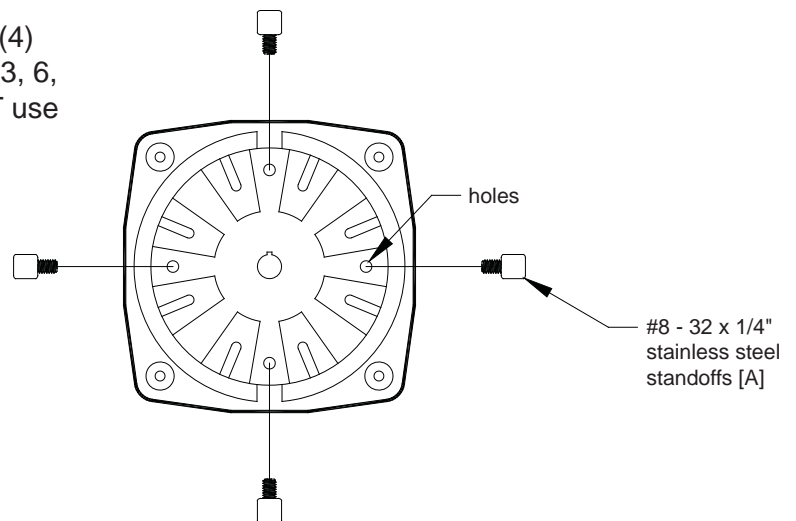

Figure 4
Clean any dust or debris from gearmotor. Install (4) Stand-offs [A] into (4) holes. These should be at 3, 6, 9 & 12 o'clock positions. Finger tighten, DO NOT use tools to tighten. **See Figure 4.**